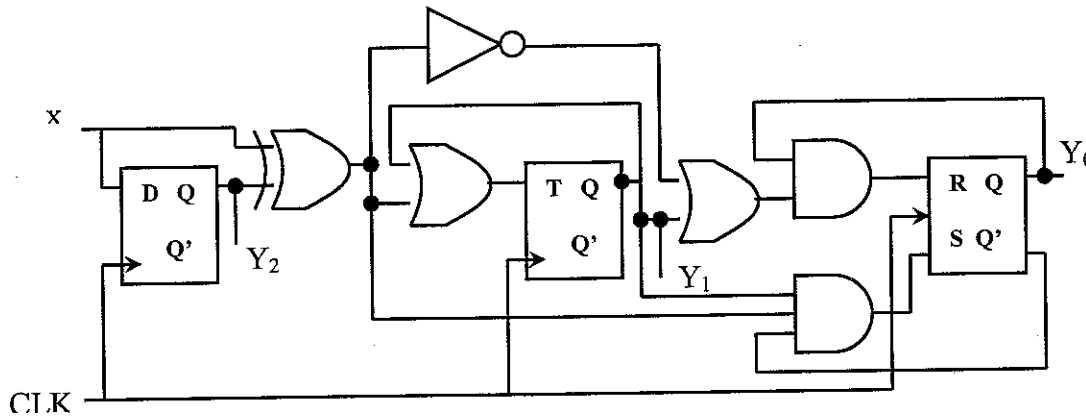

Figure 1
- Determine maximum speed of operation at typical conditions for the circuit shown in Fig. 1 below, taking into consideration the fan-out loading only. Timing parameters for all components are listed in Table 1.